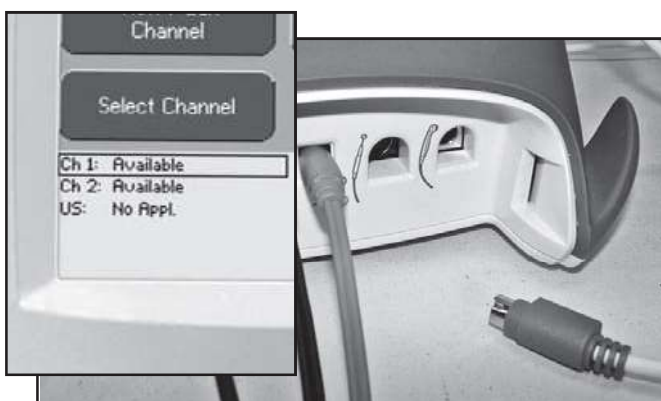

FIGURE 5.18
2. Look at the "Ultrasound" channel icon at the lower Left Hand corner of screen. It should read "No Appl." **See Figure 5.18.**